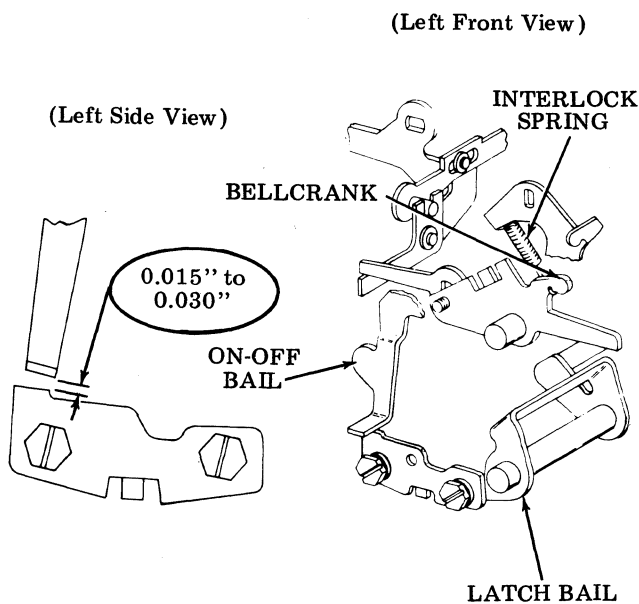

Figure 8 - Lever and Latch Bail Gap Adjustment (185703 Modification Kit)
2.39 Adjustments and spring tension peculiar to the 185703 modification kit are shown in Figures 8 and 9.